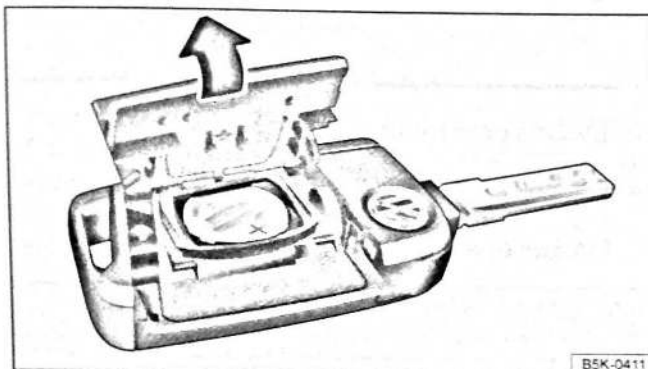

Fig. 25 Vehicle key: opening the battery case cover
- Remove the cover on the rear of the vehicle key in the direction of the arrow $\Rightarrow$  using a suitable object, e.g. a coin $\Rightarrow$ Fig. 25.
- Fit the cover as shown $\Rightarrow$ Fig. 25 and push it onto the vehicle key housing against the direction shown by the arrow until it engages.